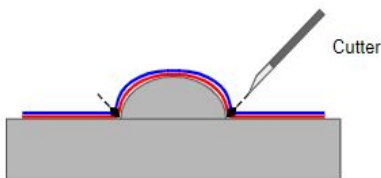

Fig.13
**IMPORTANT:** When using JT 10500 Series, it is recommended to finish off by cutting around the rivet using a cutter in order to release the tension otherwise it may pop-out later. *Fig.13*